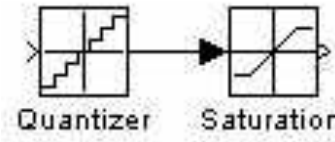

Figure 4: Quantizer with saturation.
19. In Simulink, the quantization block does not have any upper or lower limits. Try to construct a quantization block by connecting a quantizer with a saturation as shown in Figure 4. **[2p]**